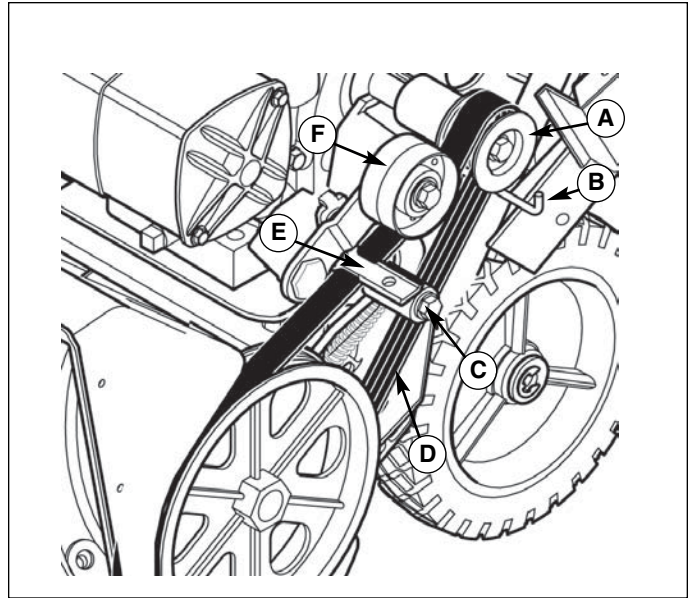
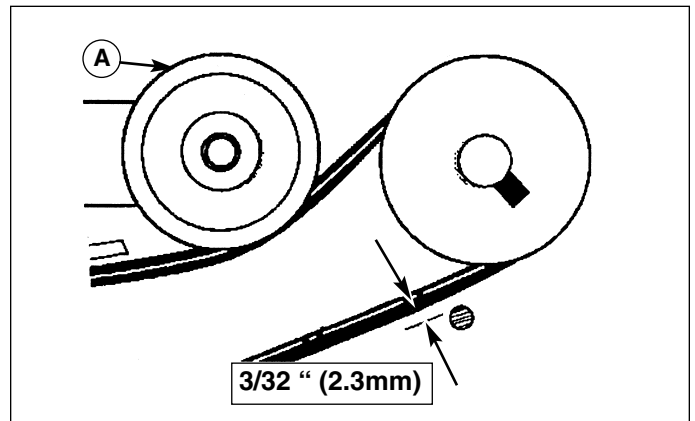

Figure 14. Drive Belt Installation
Figure 15. Belt Guide
2. Remove the drive belt (E, Figure 14) from the idler pulley (G).
3. Move the belt guide (B) away from the drive belt (E).
4. To reduce pressure on the drive belt (E), move the idler pulley (G) away from the belt. Remove the drive belt (E) from between the brake pad (F) and the brake roller (D).
5. Remove the old drive belt (E).
6. To install the new drive belt (E), reverse the above steps.
7. Make sure the drive belt (E) is seated properly on the pulleys.
8. Set the belt guide to $3/32"$ (23 mm) clearance as shown in Figure 15.